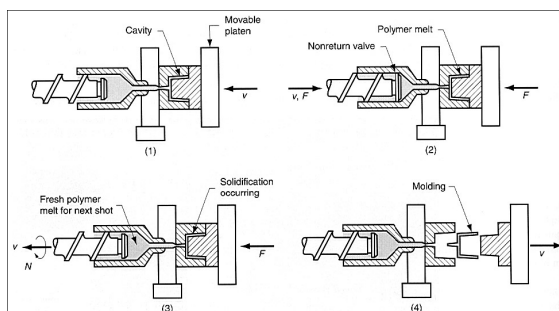

Figure 2. Injection moulding cycles
6. Stages (2) to (5) repeat (Figure 2.)
The injection moulding cycles are given in Figure 2 [2].